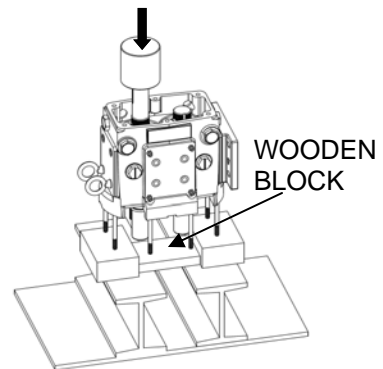

Figure 46: Pressing Shafts From Gear Case
4) Set the gear case in a press with the fluid end side facing down (Figure 46). Use a wooden block to protect the shafts from hitting the ground when pushed out. Once the protective block is in place push the shafts out of the gear case. Reference Table 4 for the required force (in tons) needed to press the shafts out of the gear case.